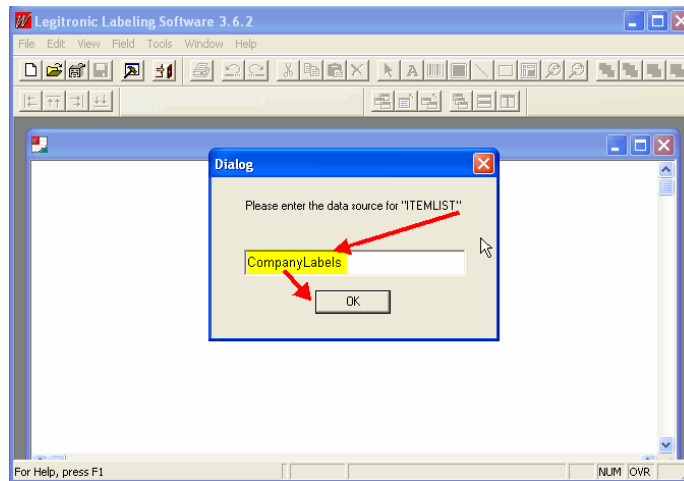

Figure 4-15
4.3.7. Enter the DSN from Step 2.22 **exactly** as you entered it in Step 2.22 and click [OK]. (Figure 4-15)